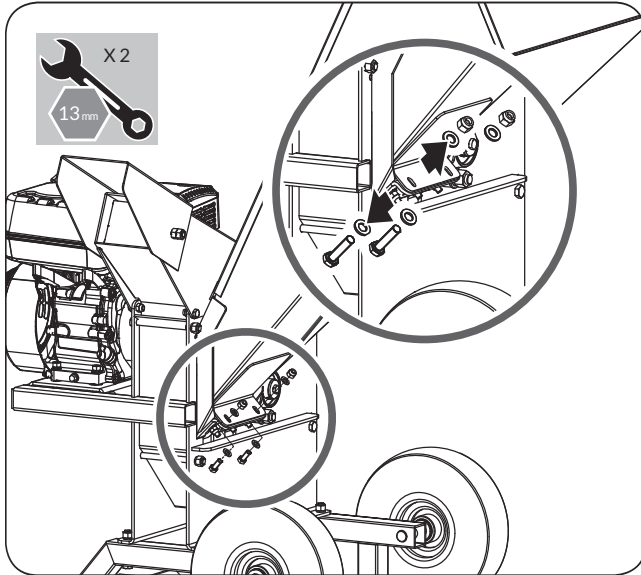

Figure 13
1. Remove the feed hopper. (See **Figure 13**)